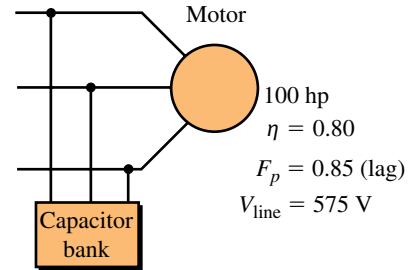

FIGURE 23–52
44. A motor (delivering 100 hp to a load) and a bank of power factor capacitors are connected as in Figure 23–52. The capacitors are rated $Q_C = 45$ kVAR. Reduce the problem to its single-phase equivalent, then compute the resultant power factor of the system.
45. The capacitors of Figure 23–52 are connected in Y and each has the value $C = 120$ μ F. Compute the resultant power factor. Frequency is 60 Hz.